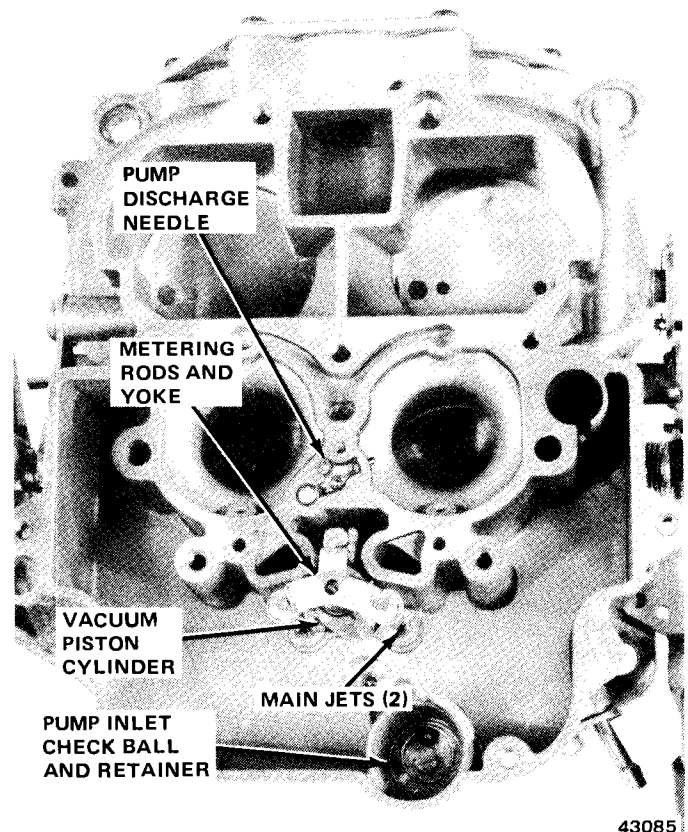

Fig. 4-72 Fuel Bowl Interior
(15) Remove accelerating pump from pump arm.
(16) Turn main body upside down and catch accelerating pump discharge needle and check ball (fig. 4-72).